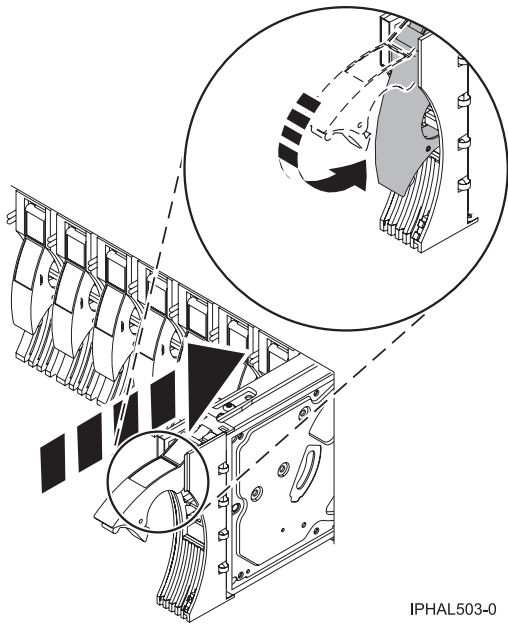

Figure 5. Installing a disk drive in a model
5. Install the disk drive as shown in Figure 5 on page 10.